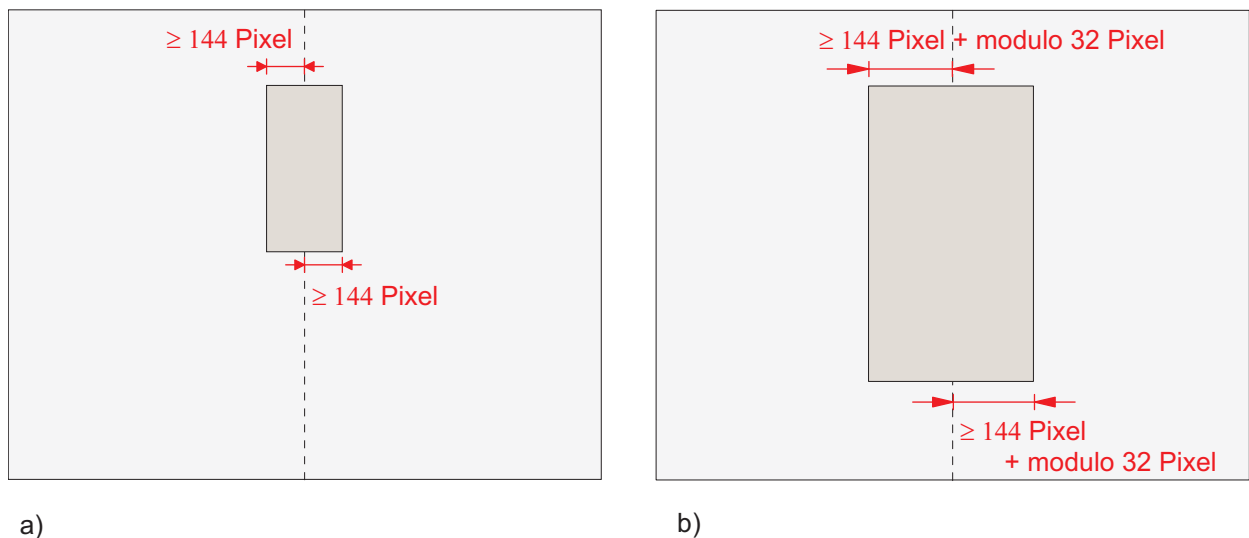
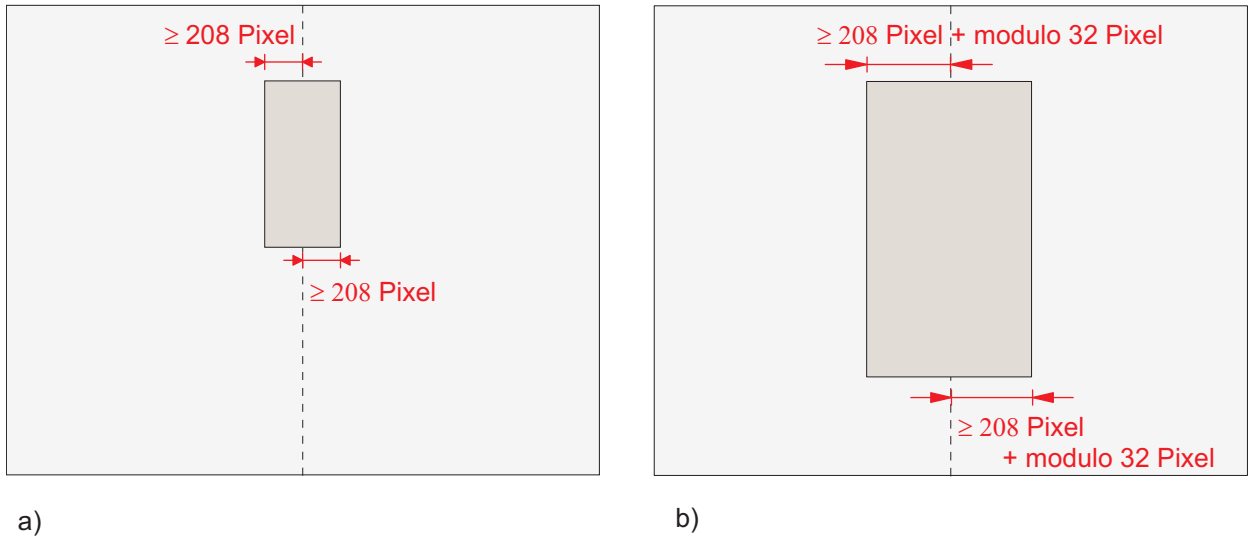
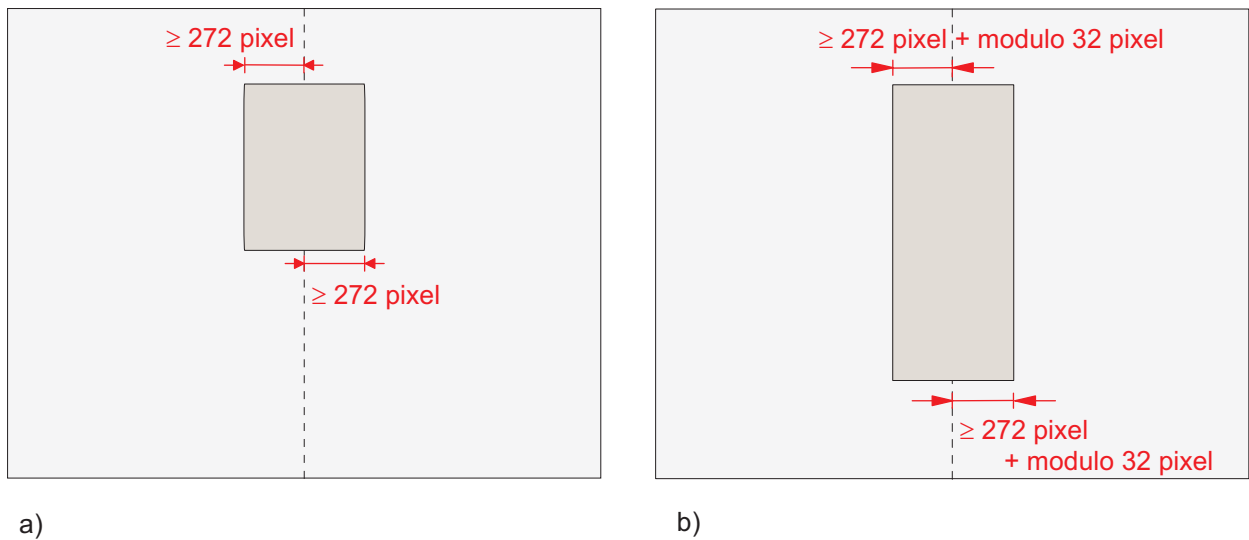

Figure 4.17: Possible configuration of the region of interest for the DS1-D1312-40 CMOS camera
Figure 4.18: Possible configuration of the region of interest with DS1-D1312-80 CMOS camera
Figure 4.19: Possible configuration of the region of interest with DS1-D1312-160 CMOS camera
Some applications do not need full image resolution (e.g. 1312 x 1082 pixels). By reducing the image size to a certain region of interest (ROI), the frame rate can be drastically increased. A region of interest can be almost any rectangular window and is specified by its position within the full frame and its width (W) and height (H). Fig. 4.17, Fig. 4.18 and Fig. 4.19 show possible configurations for the region of interest, and Table 4.3 presents numerical examples of how the frame rate can be increased by reducing the ROI.
The minimum width must be positioned symmetrically towards the vertical center line of the sensor as shown in Fig. 4.17, Fig. 4.18 and Fig. 4.19). A list of possible settings of the ROI for each camera model is given in Table 4.5.